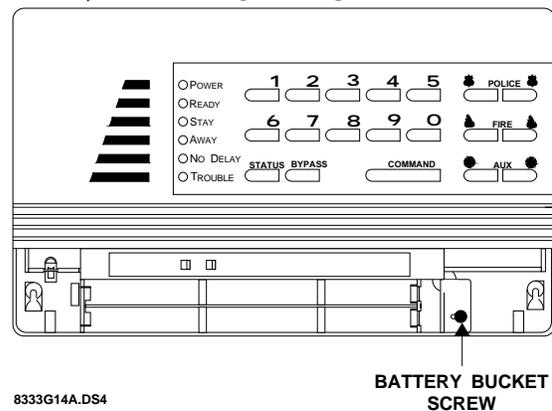

Figure 2. Remove the battery bucket screw
- 2) Remove the battery bucket from the panel by removing the screw securing it on the right side (see Figure 2).